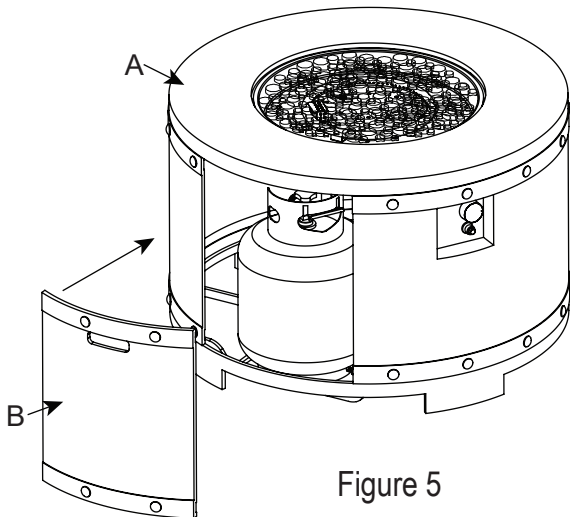
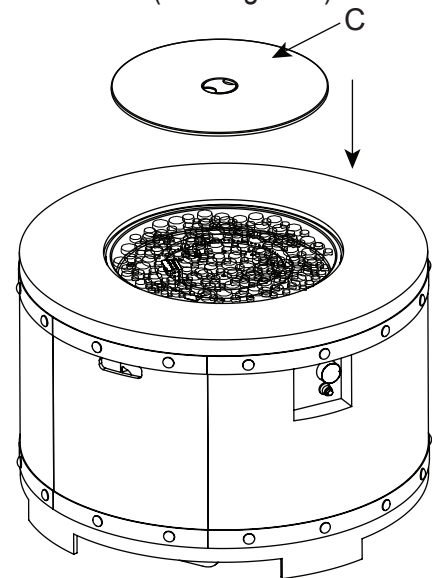

Figure 5
Figure 6
4. Attach the door (B) with fire table (A) tenderly (See Figure 5). Place the Lid (C) onto the fire bowl when not in use to protect it from the elements or when fire pit is cool COMPLETELY after the use (See Figure 6).